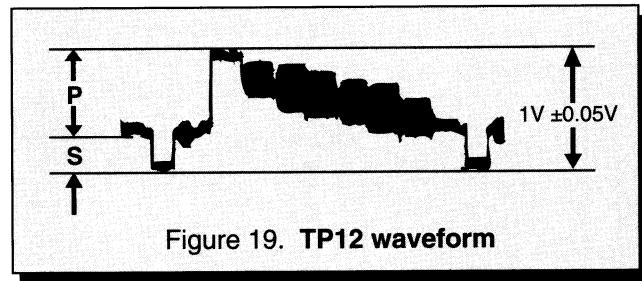

Figure 19. TP12 waveform
1. In the Serviceman Mode for making electronic adjustments, select DAC Video Adjustment Level (B5) and adjust for 1V from sync tip to white level. See Fig. 19.